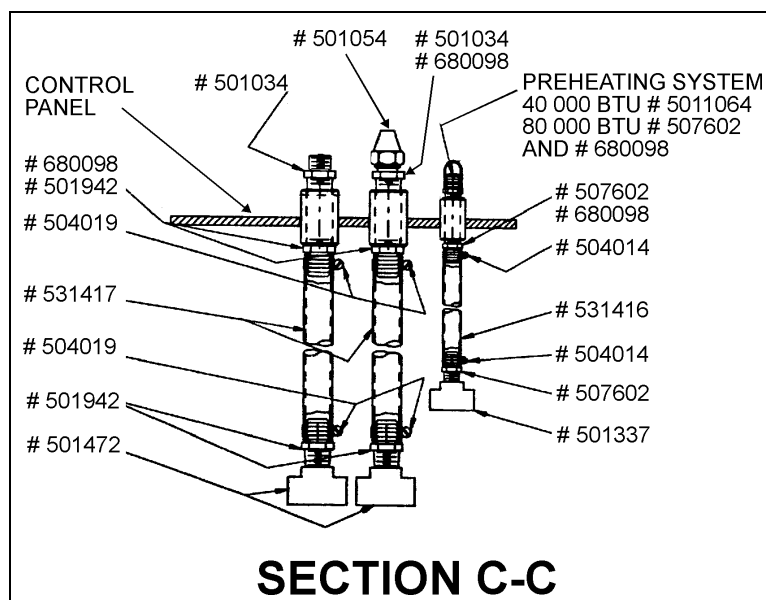

FIGURE 1: PICK-UP (SUCTION) TUBES ASSEMBLY
1. Preassemble the three pick-up (suction) tubes on the new control panel (Prévost #032114) as illustrated in figure 1.